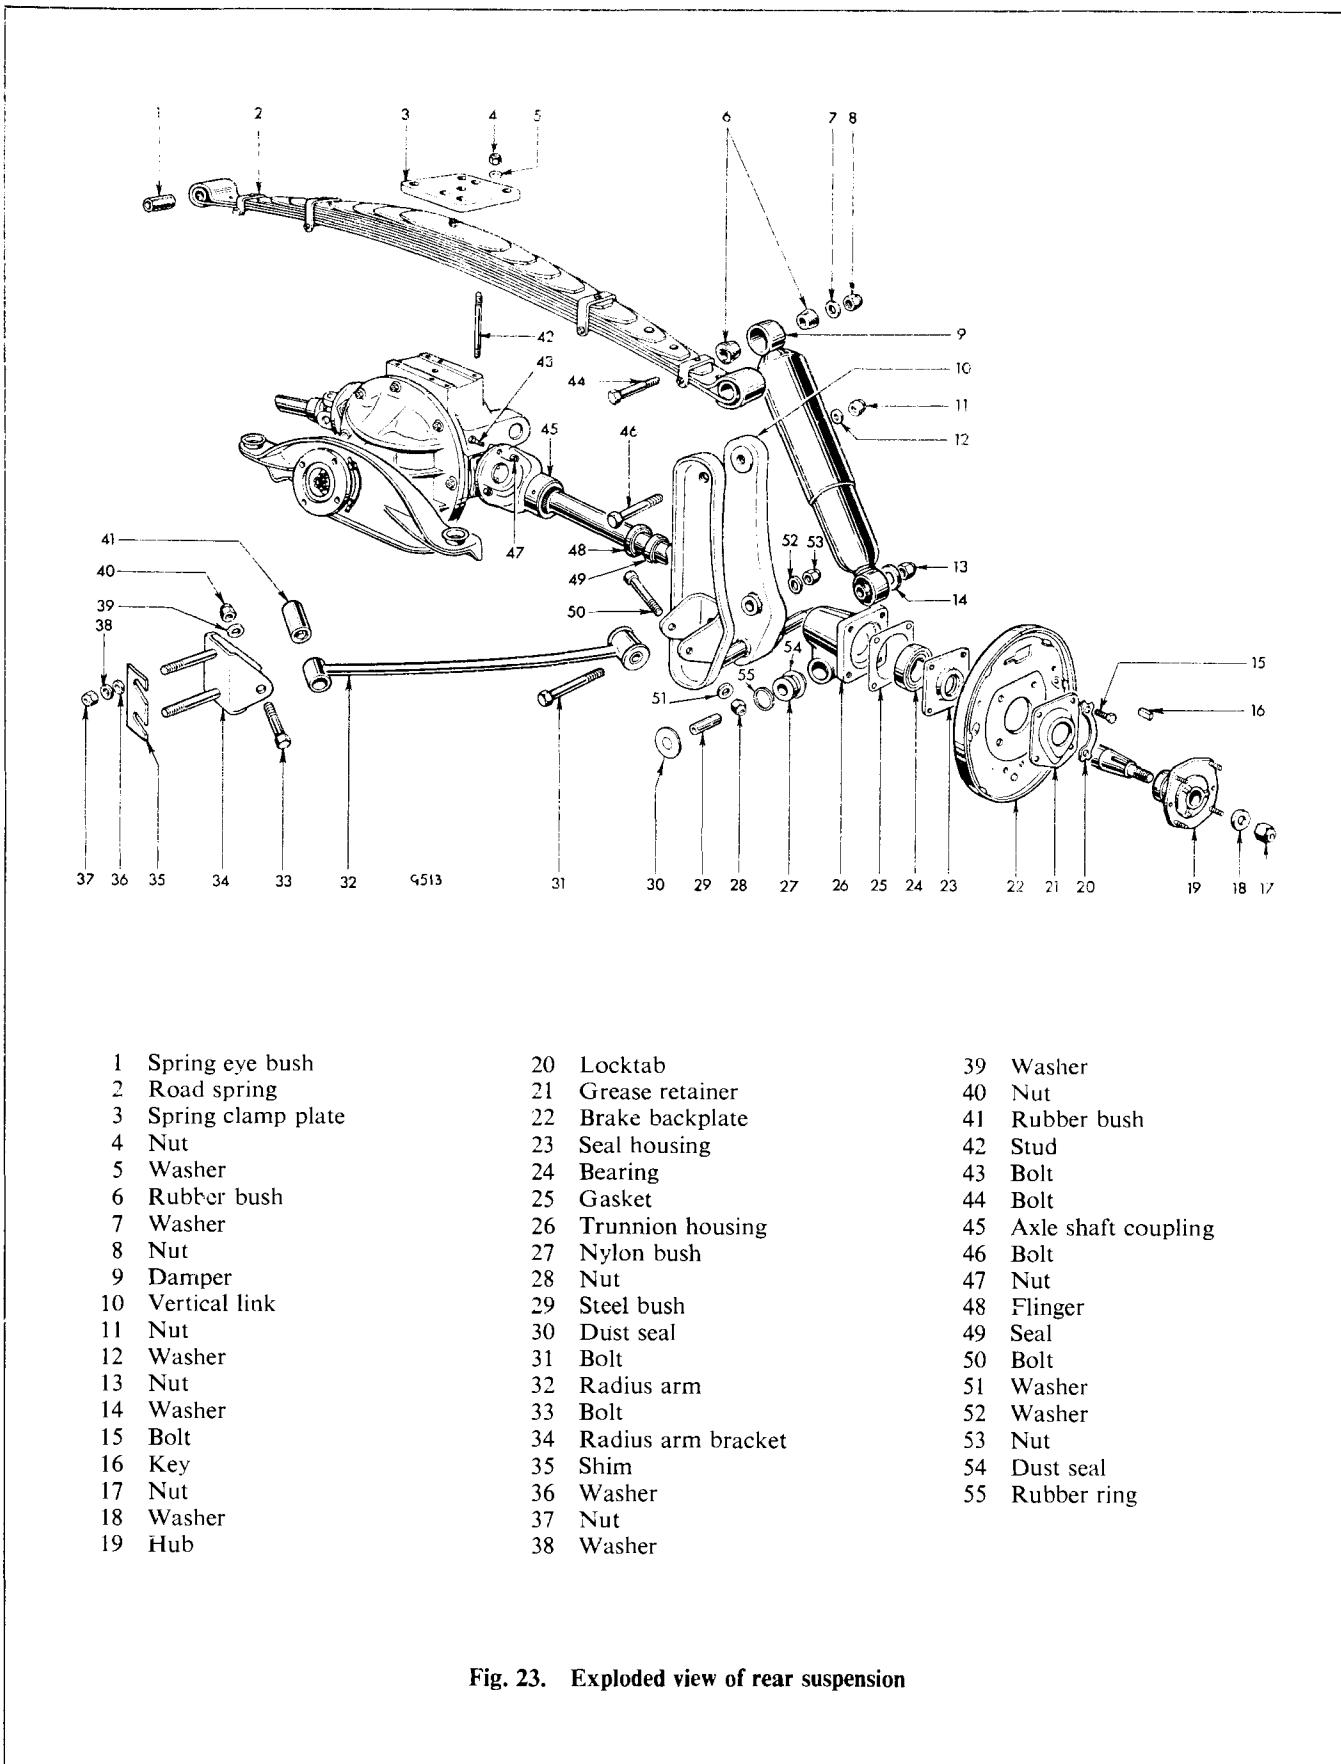
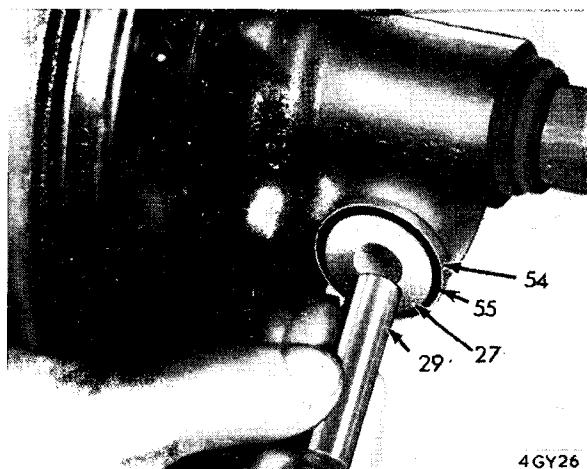

Fig. 23. Exploded view of rear suspension
Fig. 31. Trunnion bush
Check, and if necessary, adjust the rear wheel alignment. Removing an equal number of shims from both sides (35) Fig. 23 increases the rear wheel toe-in and the addition of shims decreases the rear wheel toe-in.
5. Remove the bolt (31), Fig. 23, and withdraw the vertical link (10) from the trunnion housing (26). Remove the steel bush (29), Fig. 31.